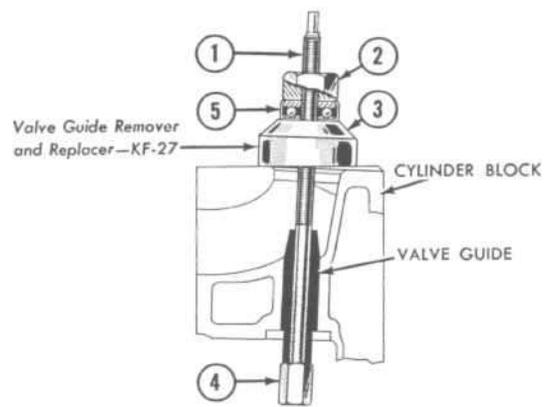

FIG. 66—REMOVING VALVE GUIDE FROM CYLINDER BLOCK
Damaged, loose, or worn valve guides must be replaced. The guides may easily be removed with Valve Guide Remover and Replacer KF-27 (Fig. 66). If a valve guide is loose in the cylinder block, the valve guide bore should be reamed and an oversize guide should be installed.
Assemble the tool as shown in Fig. 66, using the angular spacer (3), with the thickest part of the spacer toward the manifold side of the cylinder block, and the small nut (4) at the end of the shaft inside the valve chamber. Be sure to place the thrust bearing with the rotating face toward the nut on the outside end of the tool. Hold the shaft (1) to prevent rotation and tighten the nut (2) until the valve guide is pulled free.